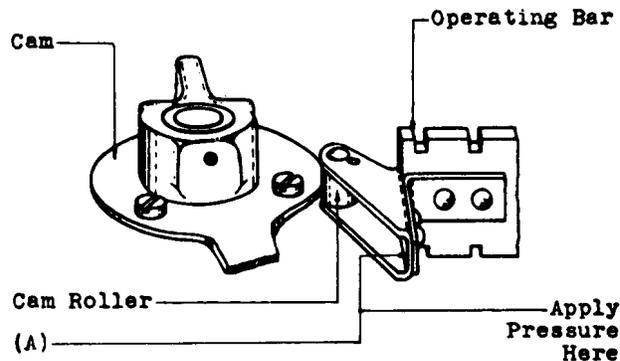

Fig. 15
2.12 Pressure Between Cam and Roller - Fig. 15 (A) - When the operating bar is in the normal position the pressure between the cam and the roller shall be: